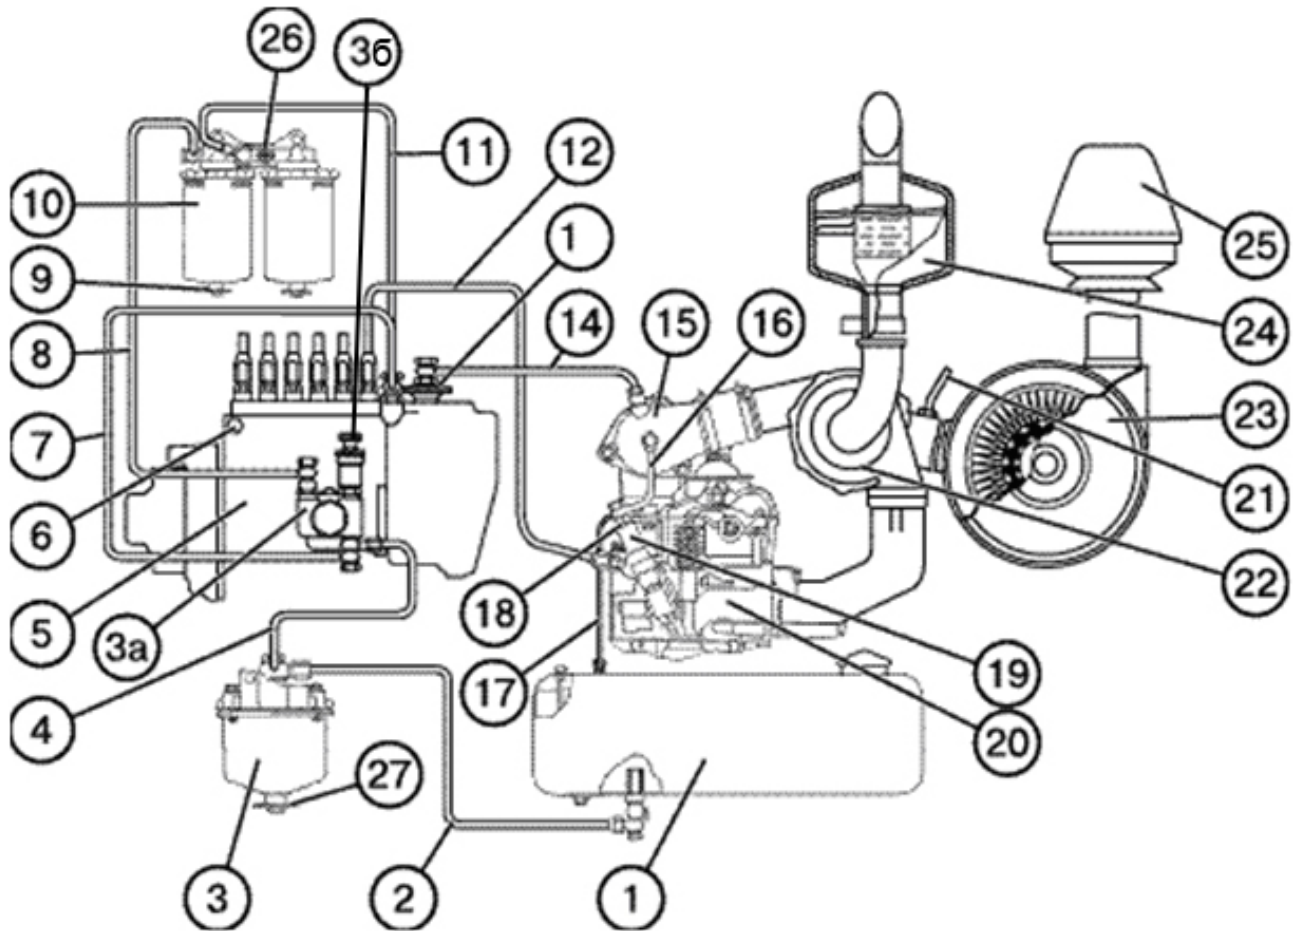

Fig. E-3. Fuel feed circuit diagram:
The engine **feed circuit** (refer to Fig. E-3) consists of an air-cleaner, air-delivery conduit, induction and exhaust manifolds, turbocharger, exhaust silencer, fuel tank, coarse and fine fuel filters, fuel pump, injectors, as well as fuel-injection and delivery pipelines.
The **fine fuel filter** (refer to Fig. E-3) has a replaceable filter element which is installed in the filter housing.
To bleed air from the diesel-engine feed circuit, the filter housing is provided with a plug (26), refer to Fig. E-3.
Fuel injection into the cylinders is achieved by injectors (19) (refer to Fig. E-3) (Φ DM-22), closed-type, with five-bore nozzles.
The diesel fuel injection pump (5) (refer to Fig. E-3) is an in-line type six-plunger member with a pneumatic anti-smoking adjuster.
Fuel is to be cleaned from mechanical impurities by a **coarse fuel filter** (3) (refer to Fig. E-3) which includes a screening element. Sludge is drained from the filter through a drainage plug (27) located in the bottom part of the cup housing.
The **fuel-lift pump** (3a) (refer to Fig. E-3) is mounted on the fuel injection pump body and actuated by the camshaft eccentric.